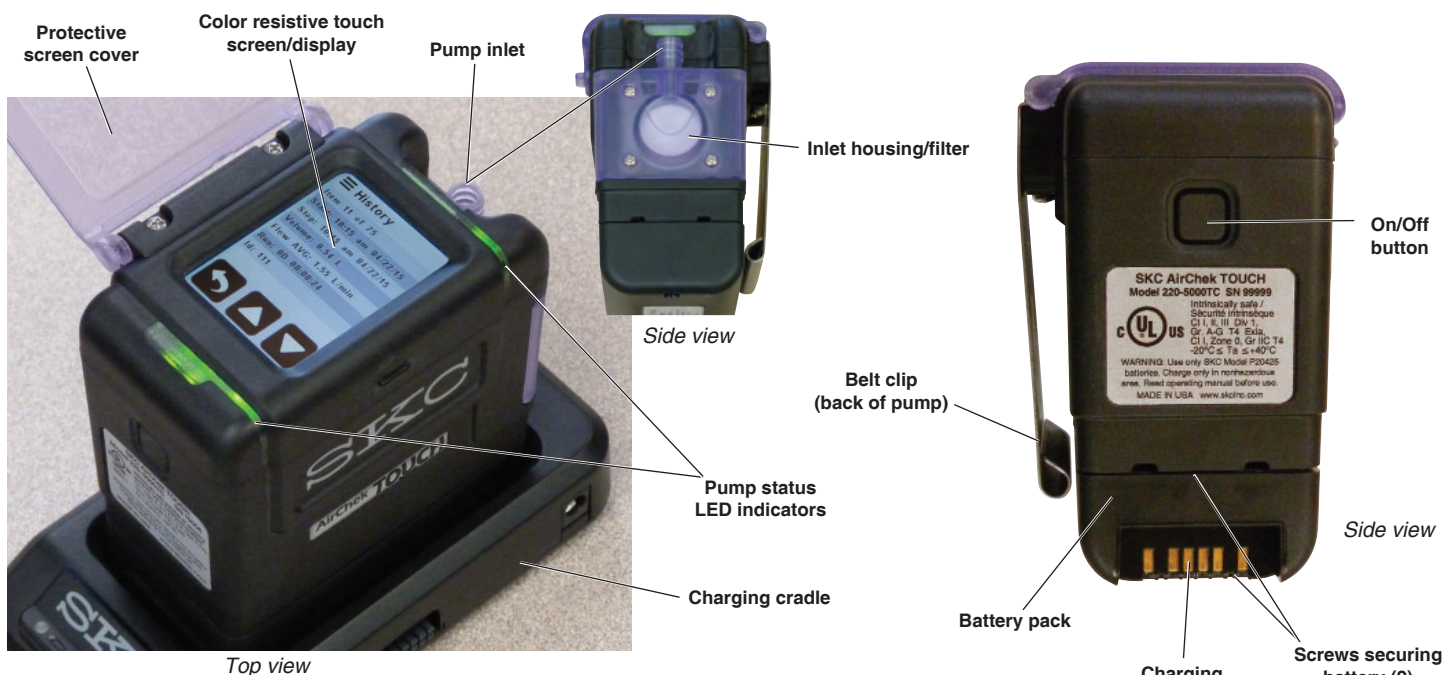

Figure 1. AirChek TOUCH Parts Overview
## Turning Pump Power On/Off (Figure 1)
**Turn on:** Press and hold briefly the recessed power button on the side of the pump (Figure 1). The screen will light.
## Using the Touch Screen (Figure 1)
Access the touch screen by unlatching and lifting the protective screen cover (Figure 1). Use a fingertip or fingernail tip to gently tap soft keys on the screen to set up and operate the pump.